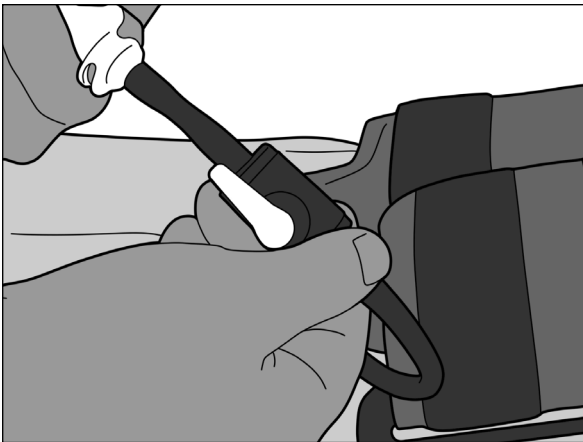

Fig. 9
2. Ensure that the shutoff valve is open. The valve handle should be in-line with tubing (Fig. 9).